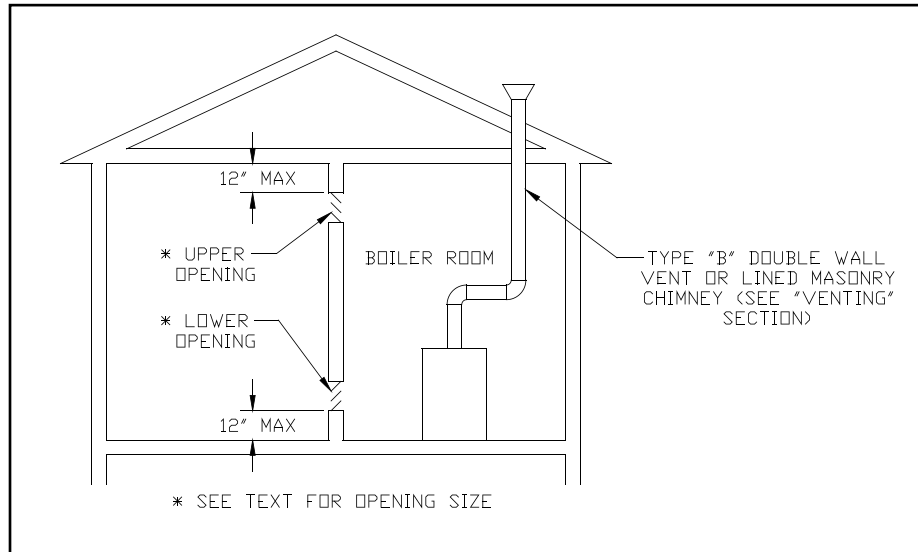

FIGURE 3: BOILER INSTALLED IN CONFINED SPACE, ALL AIR FROM INSIDE
- 3) Confined Space - Provide two openings into the boiler room, one near the floor and one near the ceiling. The top edge of the upper opening must be within 12" of the ceiling and the bottom edge of the lower opening must be within 12" of the floor (Figure 3).